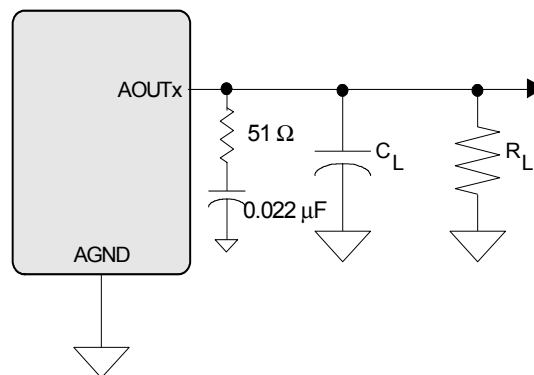

Figure 2. Headphone Output Test Load
- See Figure 2. R_L and C_L reflect the recommended minimum resistance and maximum capacitance required for the internal op-amp's stability and signal integrity. In this circuit topology, C_L will effectively move the band-limiting pole of the amp in the output stage. Increasing this value beyond the recommended 150 pF can cause the internal op-amp to become unstable.
Test conditions (unless otherwise specified): Input test signal is a full-scale 997 Hz sine wave; Sample Frequency = 48 kHz; Measurement Bandwidth is 20 Hz to 20 kHz; Test load $R_L = 16\Omega$, $C_L = 10\text{ pF}$ (see Figure 2).
Test conditions (unless otherwise specified): Input test signal is a full-scale 997 Hz sine wave; measurement bandwidth is 20 Hz to 20 kHz; Sample Frequency = 48 kHz; Test load $R_L = 10\text{ k}\Omega$, $C_L = 10\text{ pF}$ (see Figure 2).